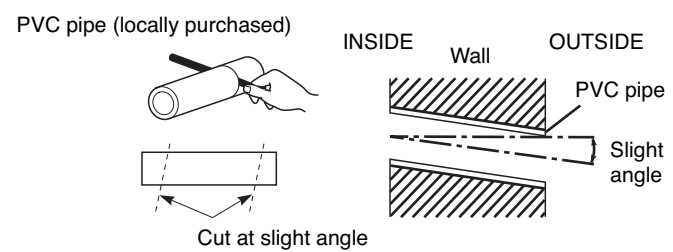

Fig. 3-86
- (9) Measure the thickness of the wall from the inside to the outside and cut PVC pipe at a slight angle to fit. Insert the PVC pipe in the wall. (Fig. 3-86)